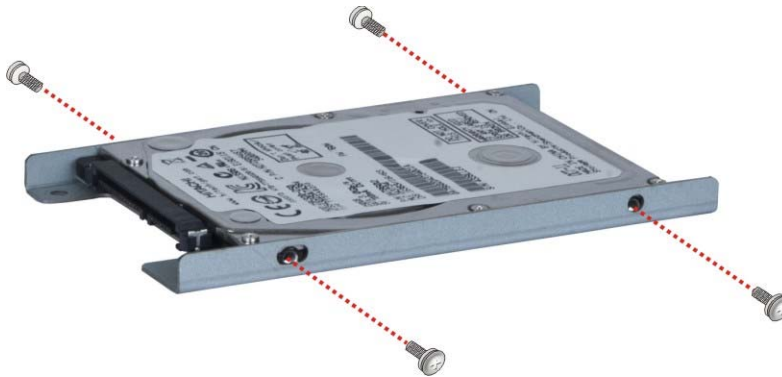

Figure 3-8: HDD Retention Screws
Step 3: Attach the HDD brackets to the HDD. To do this, align the four retention screw holes in the both sides of the HDD bracket with the retention screw holes on the sides of the HDD. Insert four retention screws into the HDD bracket (Figure 3-8).